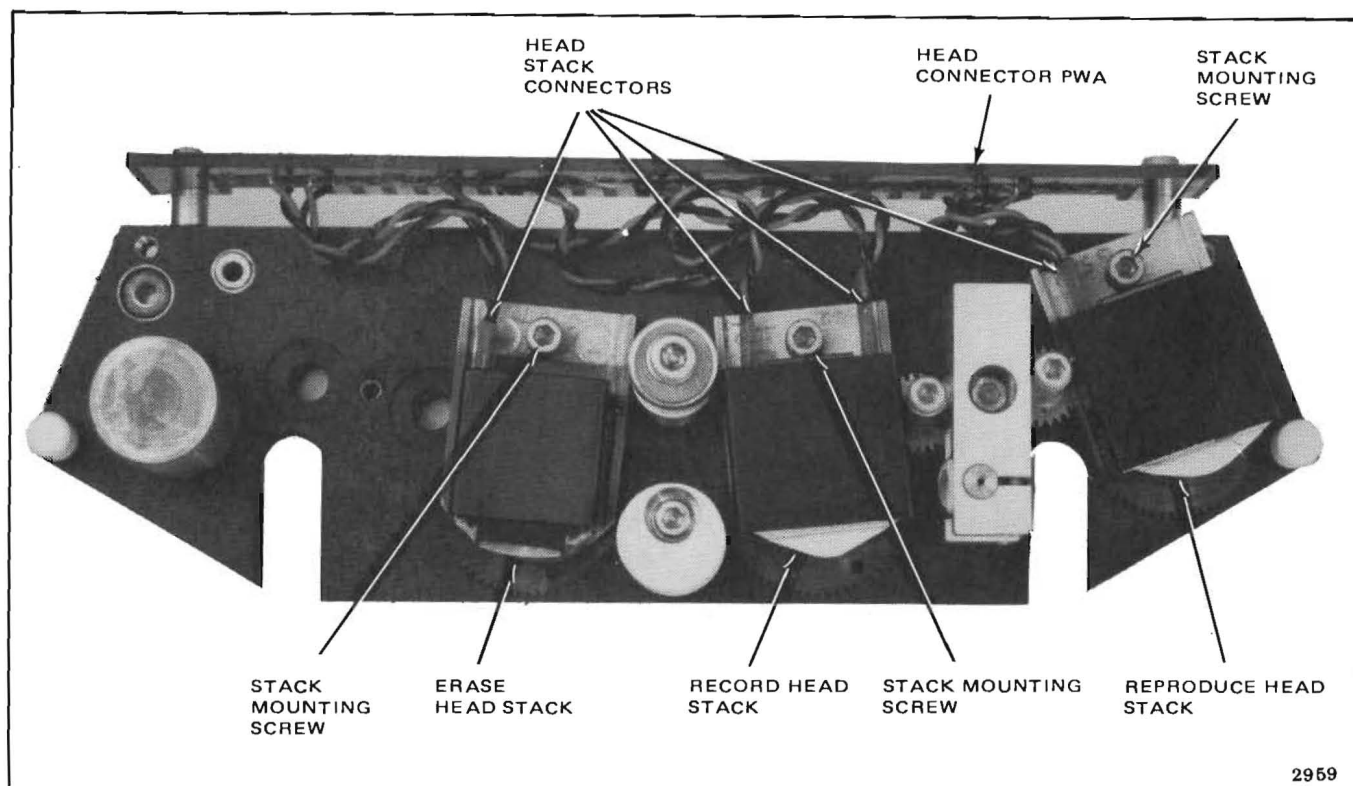

Figure 5-39. Top View of Head Assembly with Main Head Shield Removed
4. Carefully unplug the head-stack connector(s) of the head stack to be changed (Figure 5-39).
5. Remove head-stack mounting screw and spring (Figure 5-39).